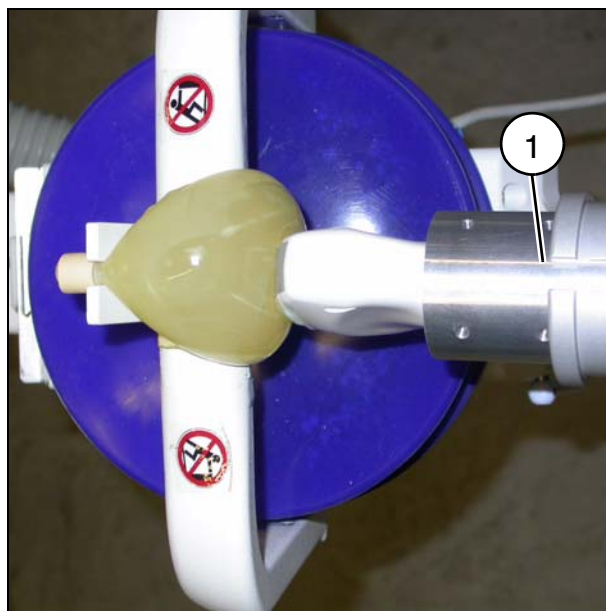

Fig. 8
- Check that the ultrasound arm is as shown in Fig. 1, if not align it. The longitudinal groove must be visible (1/Fig. 8).